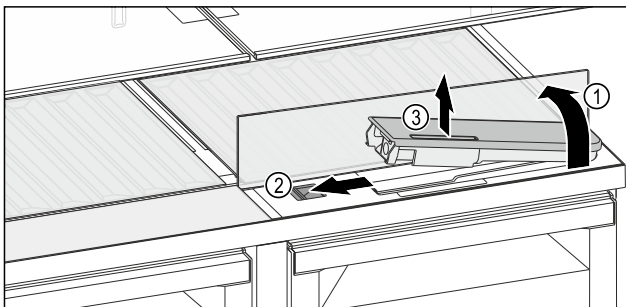

Fig. 143
- Lift the glass panel and fold to the back as far as it will go Fig. 143 (1).
- Slide the slider Fig. 143 (2) to the left.
- Remove the water tank Fig. 143 (3).